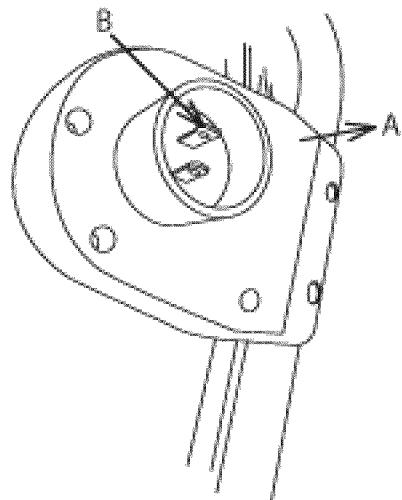

Figure 19
3. Note that the snowblower has a polarized male plug, with one prong in the switch housing socket slightly longer and wider than the other (Fig. 19). The extension cord female end should be likewise polarized, so that the extension cord fits snugly into the switch housing socket.